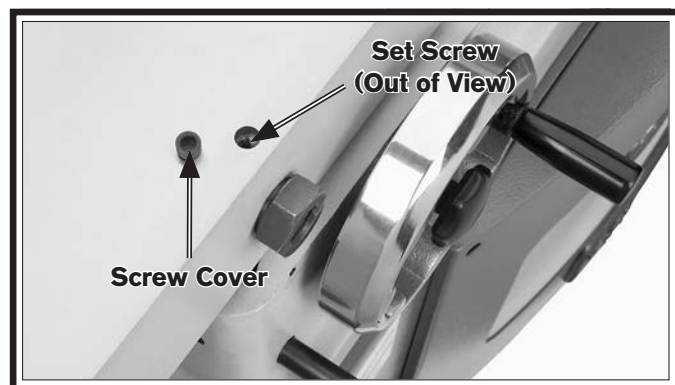

Figure 45. Screw cover and set screw location.
2. Remove screw cover (see **Figure 45**) covering each set screw on outfeed table.
3. Loosen each set screw (see **Figure 45**) two turns.